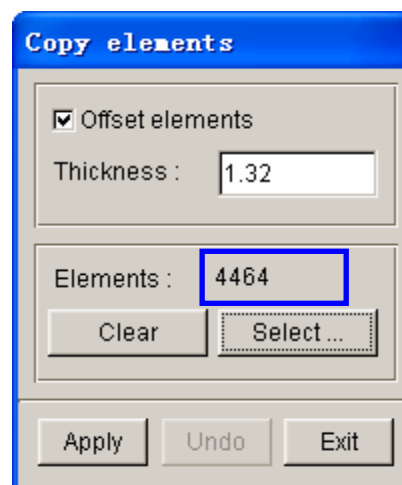

Figure 5.50 After selecting elements
17. Click **OK** button to return to the COPY ELEMENTS dialog box. Now, the **Apply** button is enabled. See Figure 5.50.